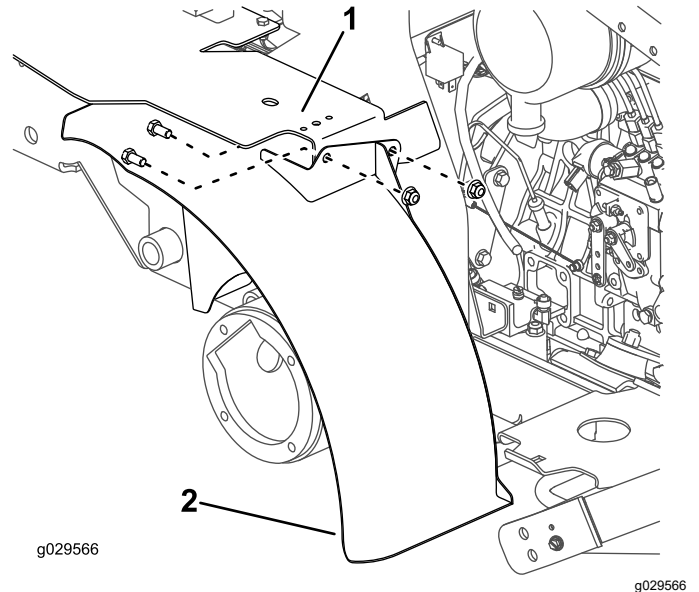

Figure 24
6. Loosely mount the bracket on the top of the left fender to the fuel-tank bracket with 2 bolts (3/8 x 3/4 inch) and 2 nuts (3/8 inch) as shown in Figure 24.